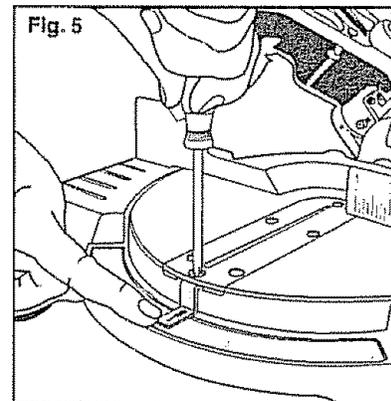

Fig. 5
### MITER ANGLE INDICATOR ADJUSTMENT (Fig. 5) If Necessary
- 2 Loosen the miter angle indicator screw and adjust the indicator to the "0" mark on the miter scale (Fig. 5).